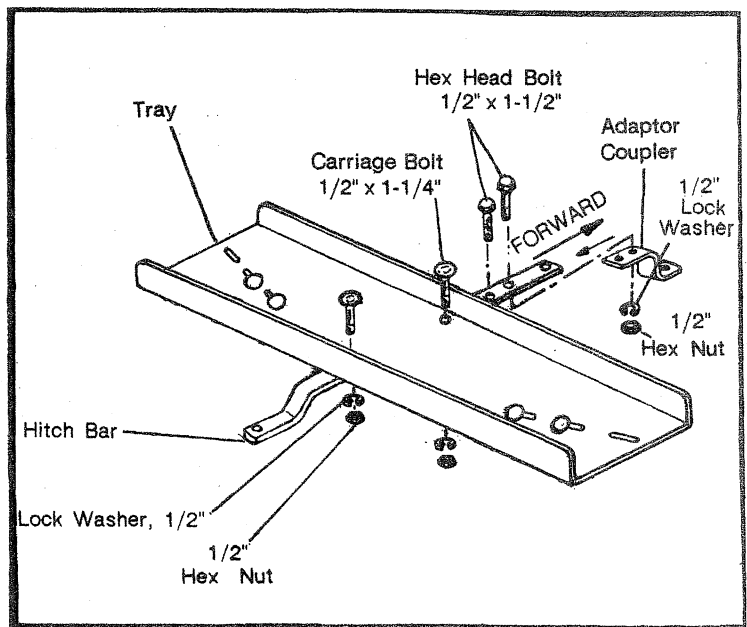

Fig. 2
Refer to Fig. 2
- Assemble Hitch Bar, Adaptor Coupler and Tray as described in Fig. 2.